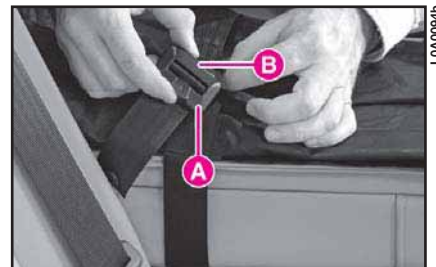

fig. 211
2) Loosen the tension of the belt by making the latter slide into buckle A (fig. 211) while pressing button B.